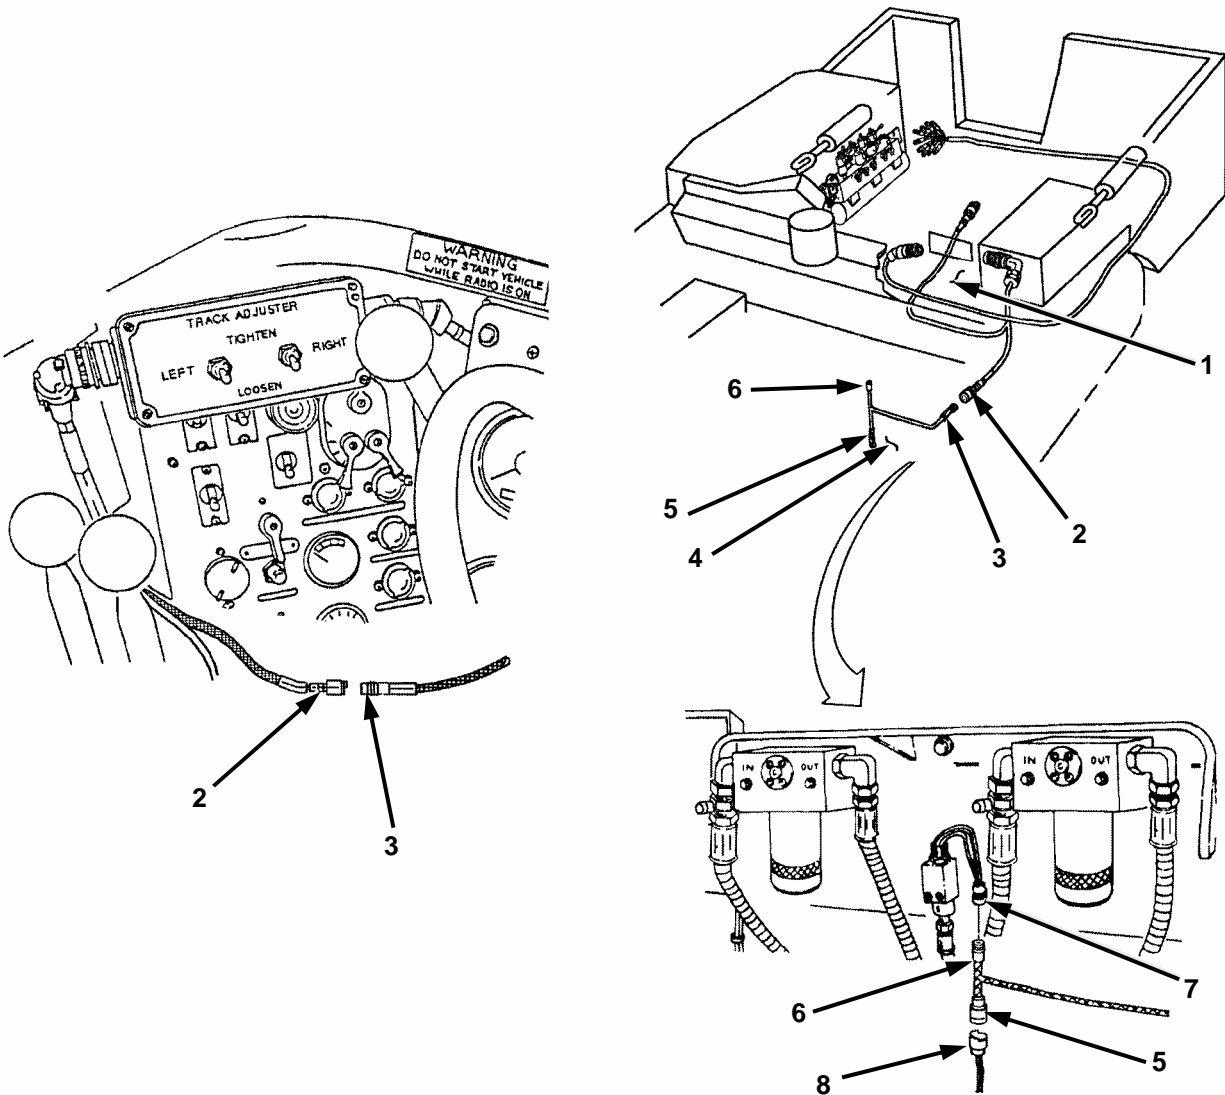

Figure 2-2. Track Adjuster SPRUNG/UNSPRUNG Switch Tap Wiring Harness.
- b. Remove SPRUNG/UNSPRUNG switch tap wiring harness connector (Figure 2-2, 3) from track control wiring harness connector (2).